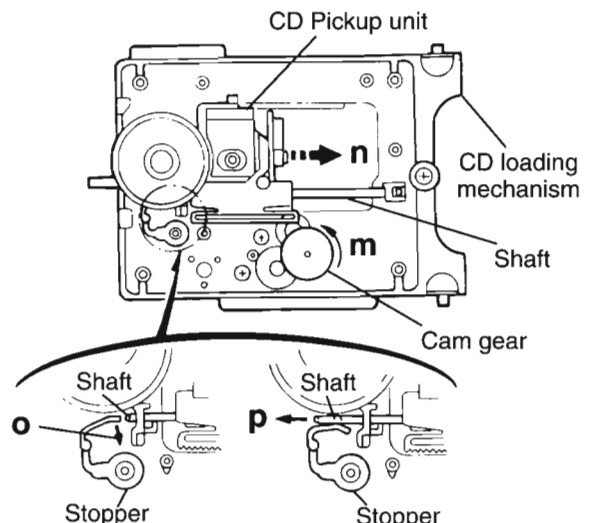

Fig.13
**Removing the CD pick unit (See Fig.13 )**